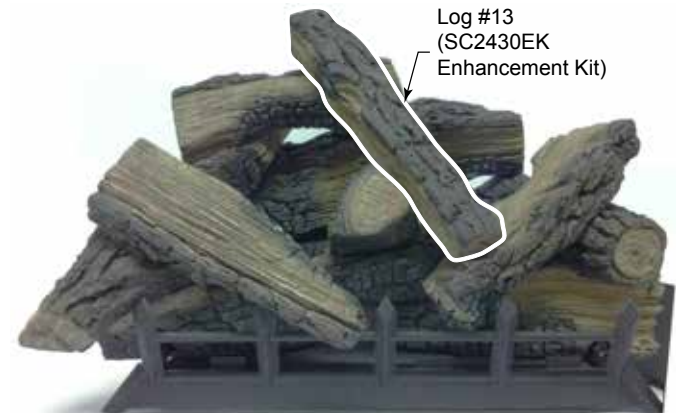

Figure 35
13. Place log #13 onto log #12 and top front right log (#10) by placing notch on bottom of log onto locating block on log #12. Rest bottom of log onto log #10 and center log (#9). *Figure 35*